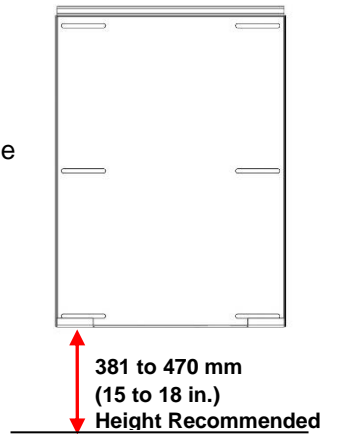

Figure 4—Recommended height from ground to bottom of Hanging Bracket
- b. Height: Select height for bottom of Hanging bracket (Figure 4) and mark wall. Recommended height is 15-18 inches(381 to 470 mm).